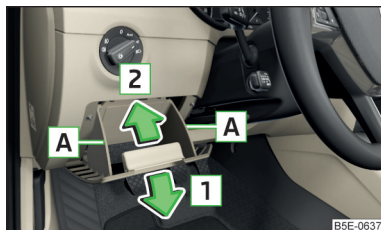

Fig. 350
- Hold the stacker laterally in the region **A** and open by pulling in the direction of arrow **1** (A greater force is required to open) » Fig. 350.